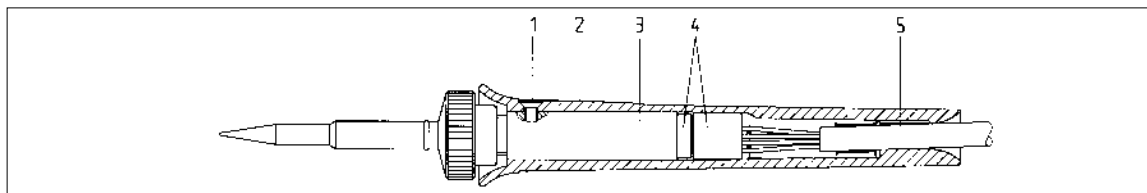

Abbildung 19
- Unscrew handle mounting screw (pos. 1/fig. 19).
- Pull off handle (pos. 2/fig. 19).
- Disconnect plug connection (pos. 4/fig. 19) between heating element and cable.
- Replace heating head (pos. 3/fig. 19).
- Restore plug connection (pos. 4/fig. 19) between heating element and cable.
- Push handle (pos. 2/fig. 19) onto heating head (pos.3/fig. 19).
- Screw in handle mounting screw (pos. 1/fig. 19).